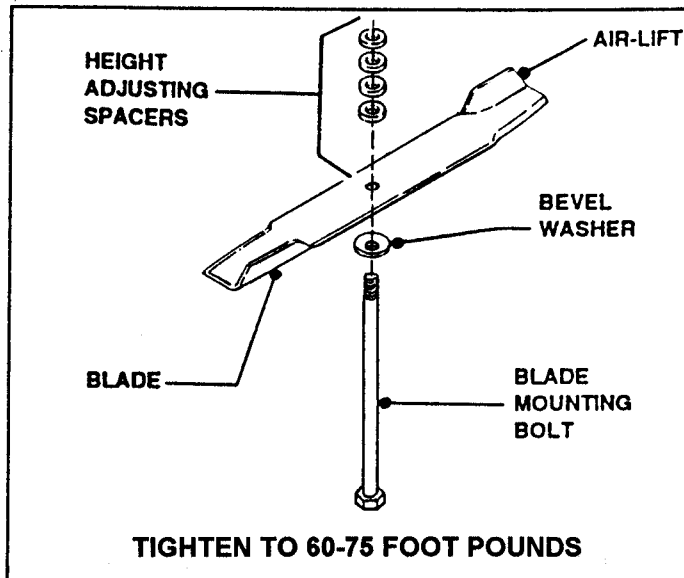

FIGURE 38
- Install the blade mounting nut on each blade mounting bolt. See Figure 38.